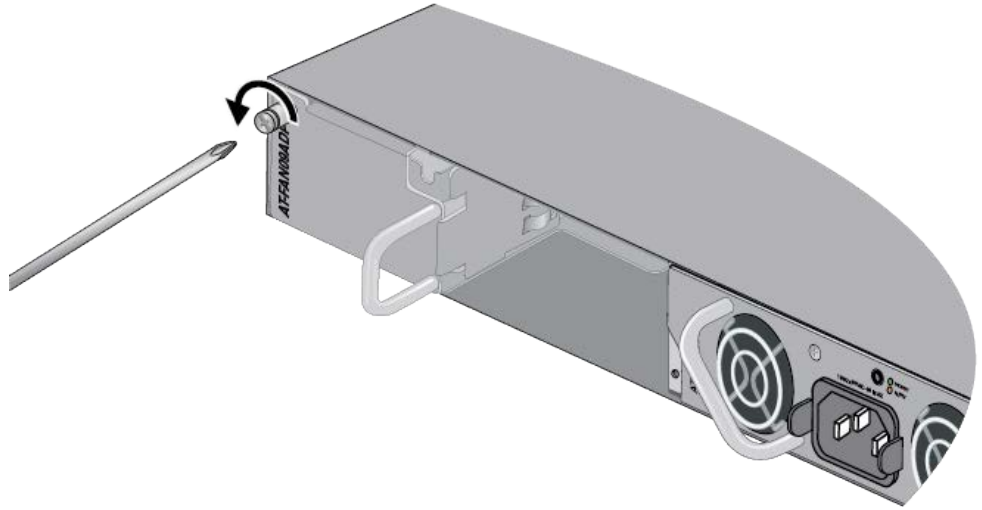

Figure 30. Loosening the Captive Screw on the AT-FAN09ADP Module
5. Use a cross-head screwdriver to loosen the captive screw on the AT-FAN09ADP Module. Refer to Figure 30.